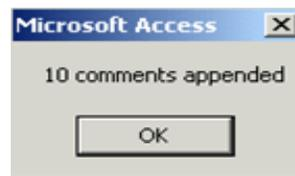

Figure 6-8. Addition Completed message.
- To add additional information to any comments already in the SDVAT User Comment field, type the new information into the “New Text” box and use the mouse to click on the “Add new text to comments” button. When the process is complete, the Addition Completed message (Figure 6-8) will appear. The number on the form will vary based on the number of records in your subset.